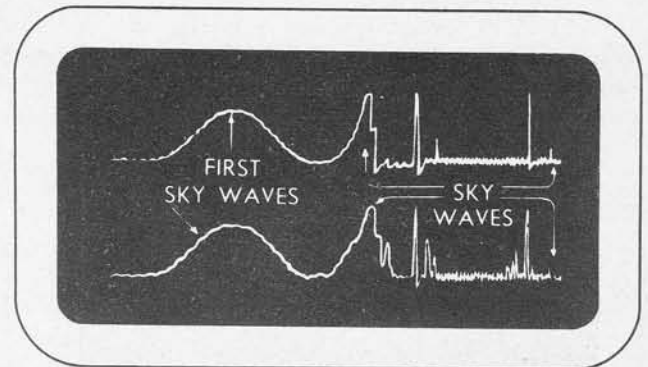

Figure 3-37. Sky Wave Signals — Position "2"
(2) In "FUNCTION" switch position 2, the sky wave trains will appear as shown in figure 3-37.